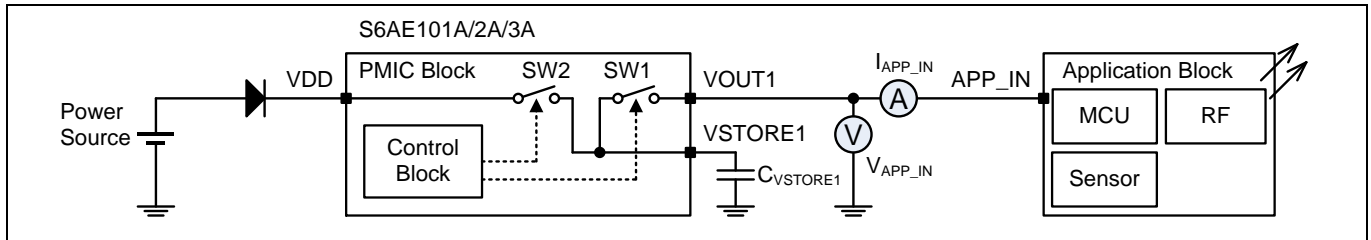
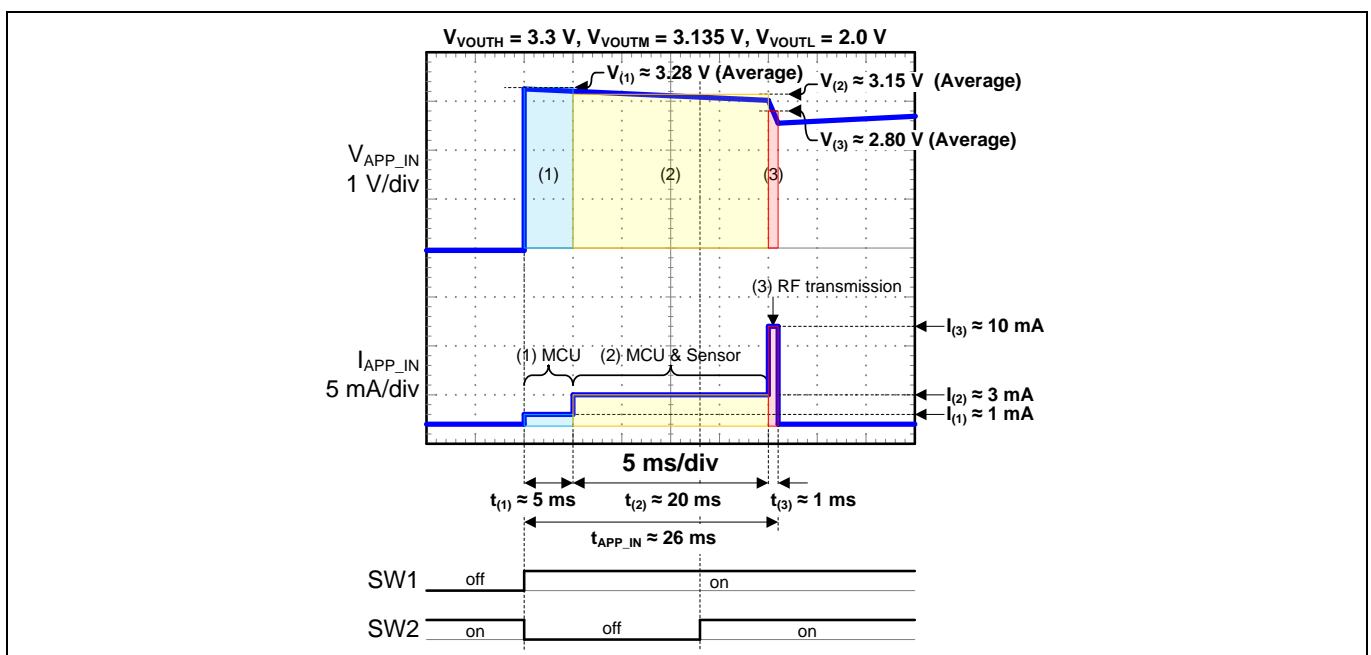

Figure 3 Measurements of voltage, current, and operation time
Figure 4 Waveform of V_{APP_IN} , I_{APP_IN} , and t_{APP_IN}
First of all, the voltage (V_{APP_IN}), the current (I_{APP_IN}), and the operation time (t_{APP_IN}) of APP_IN pin in the application block are measured (see Figure 3 and Figure 4). The energy consumption in the application is calculated from Equation 1.
However, when checking the waveform of V_{APP_IN} and I_{APP_IN} in the Figure 4, the waveform is divided into three parts, (1), (2), and (3). Therefore, the energy consumptions of each part should be calculated, and then three energy consumptions are added together.